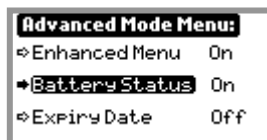

Figure 27: Battery Status screen
3. Press the (↓) button until the "Battery status" is highlighted (Figure 27).